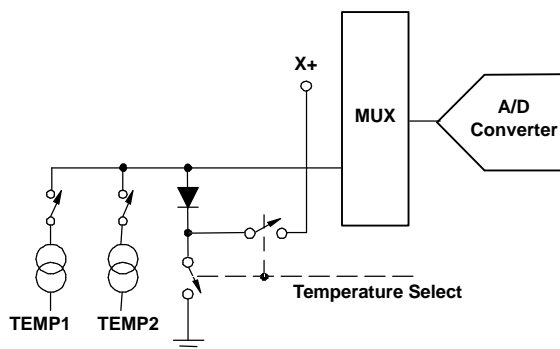
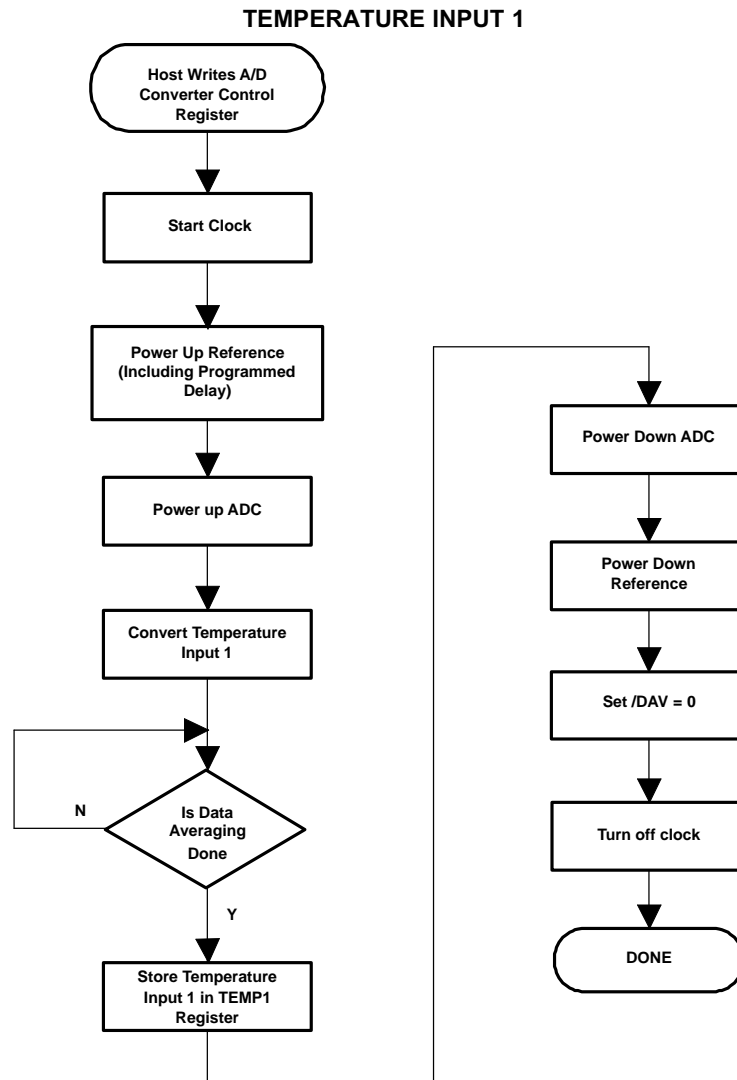

Figure 56. Functional Block Diagram of Temperature Measurement Mode
Figure 57. Single Temperature Measurement Mode
The TSC2302 offers two modes of temperature measurement. The first mode requires calibration at a known temperature, but only requires a single reading to predict the ambient temperature. A diode, as shown in Figure 56, is used during this measurement cycle. The voltage across this diode is typically 600 mV at 25°C while conducting a 20- μ A current. The absolute value of this diode voltage can vary several millivolts, but the temperature coefficient (TC) of this voltage is very consistent at -2.1 mV/°C. During the final test of the end product, the diode voltage would be measured by the TSC2302 ADC at a known room temperature, and the corresponding digital code stored in system memory, for calibration purposes by the user. The result is an equivalent temperature measurement resolution of 0.3°C/LSB. This measurement of what is referred to as Temperature 1 is illustrated in Figure 57.